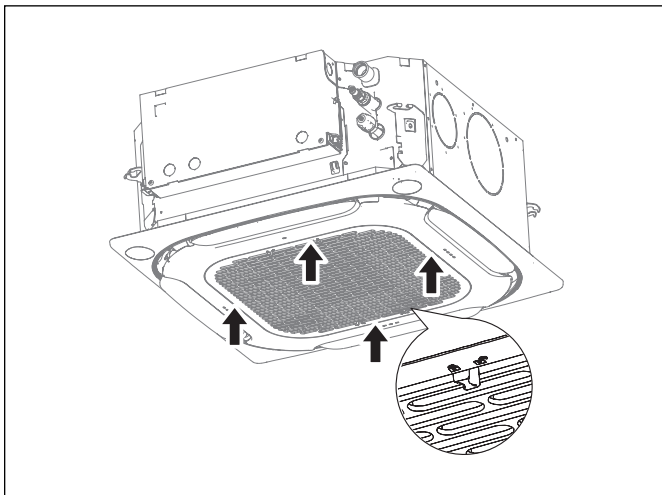

Figure 89
- c. Push the air grille up into the air inlet of the indoor unit until all four sides click into place (see Figure 89).